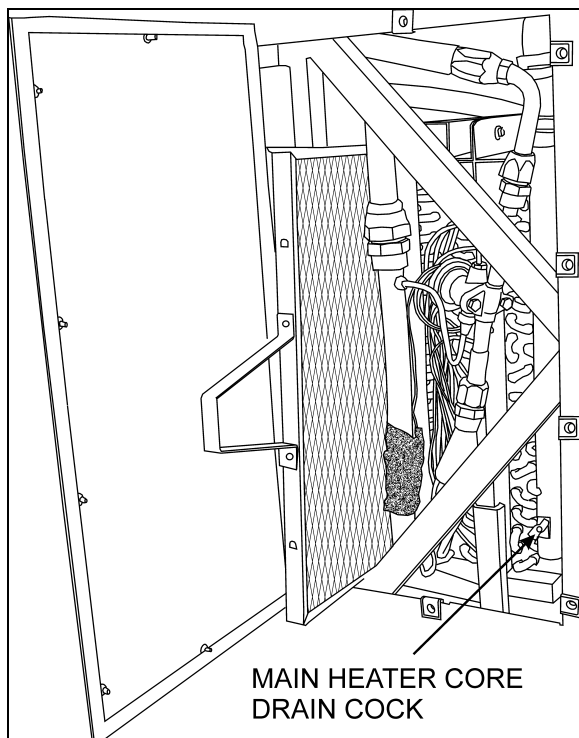

FIGURE 52: EVAPORATOR COMPARTMENT
4. Open drain cock in bottom of heater core, you can unfasten a hose connection on top of heater core (Fig.52) in order to allow air to enter while draining.